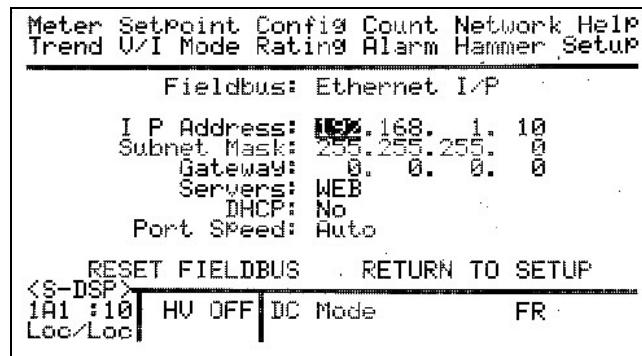

Figure 4-6
3. A new screen will be displayed with the specific protocol parameters for the field bus being used (fig. 4-6). Enter the appropriate data for each parameter. Press <Enter> after each entry.